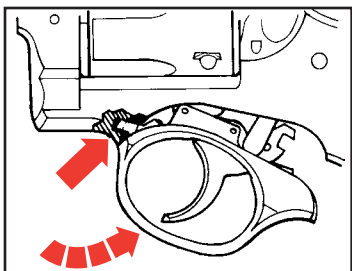
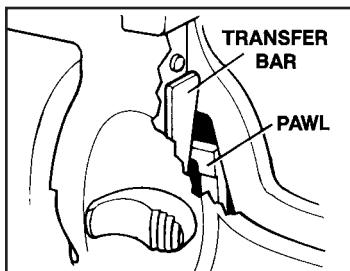

Figure 11
Figure 12
2. Hook front of trigger guard into recess in frame (See Figure 11). Align pawl in its recess in the frame and be sure transfer bar is in correct position in rear of firing pin (See Figure 12). Using mainspring lever, withdraw trigger guard latch and swing trigger guard into position in frame. Then allow latch to re-engage. If solid resistance is felt when swinging trigger guard into frame, or if trigger guard will not lock into position, re-check position of pawl and transfer-bar (See Figure 12).